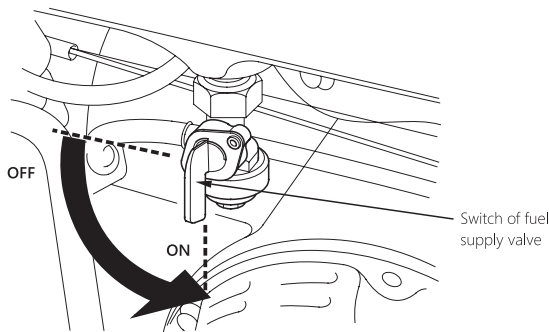

Fig. 5. The fuel valve switch
- Turn the fuel valve to the position "ON" (Fig. 5).